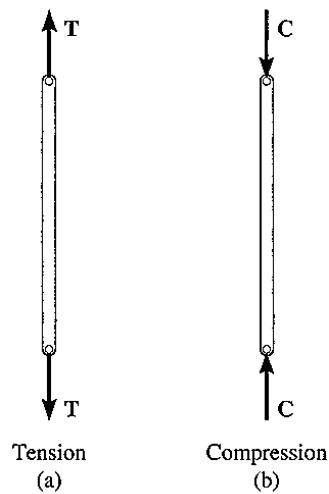

Figure 2 Tensile and compressive force in a bar
Because of the two assumptions, each truss member acts as a two-force member and therefore the forces at the ends of the member must be directed along the axis of the member. If the force tends to elongate the member, it is a tensile force (T), Figure 2(a), and if it tends to shorten the member, it is a compressive force (C), Figure 2(b).